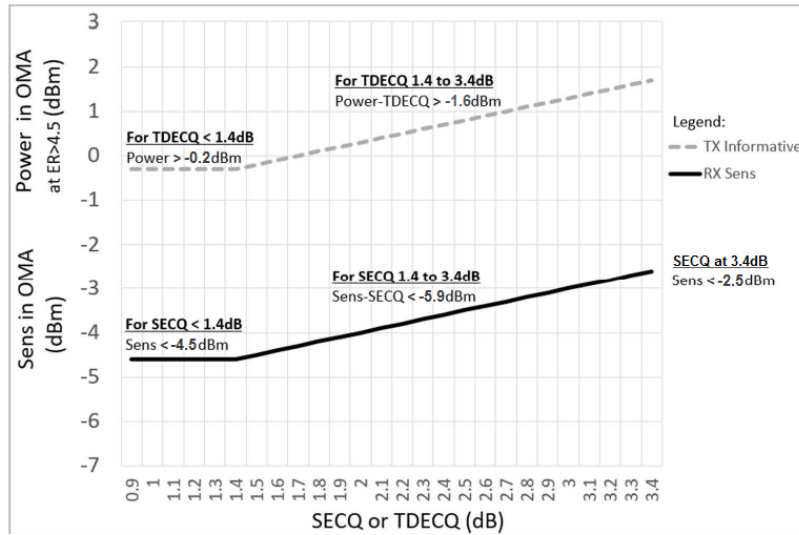

Figure 4. Stressed Receiver Sensitivity Mask
6. Measured with conformance test signal for BER = 2.4×10^{-4} . A compliant receiver shall have stressed receiver sensitivity (OMA_{outer}) values below the mask of Figure 4, for SECQ values between 0.9 and 3.4 dB.